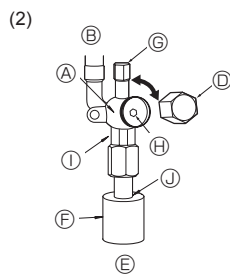

Fig. 4-6
- ① Remove the cap, pull the handle toward you and rotate  $1/4$  turn in a counterclockwise direction to open.
- ② Make sure that the stop valve is open completely, push in the handle and rotate the cap back to its original position.
- (2) Liquid side of P71-140 (Fig. 4-6)
- ① Remove the cap and turn the valve rod counterclockwise as far as it will go with the use of a  $4 \text{ mm}$  hexagonal wrench. Stop turning when it hits the stopper. ( $\varnothing 9.52$ : Approximately 10 revolutions)
- ② Make sure that the stop valve is open completely and rotate the cap back to its original position.